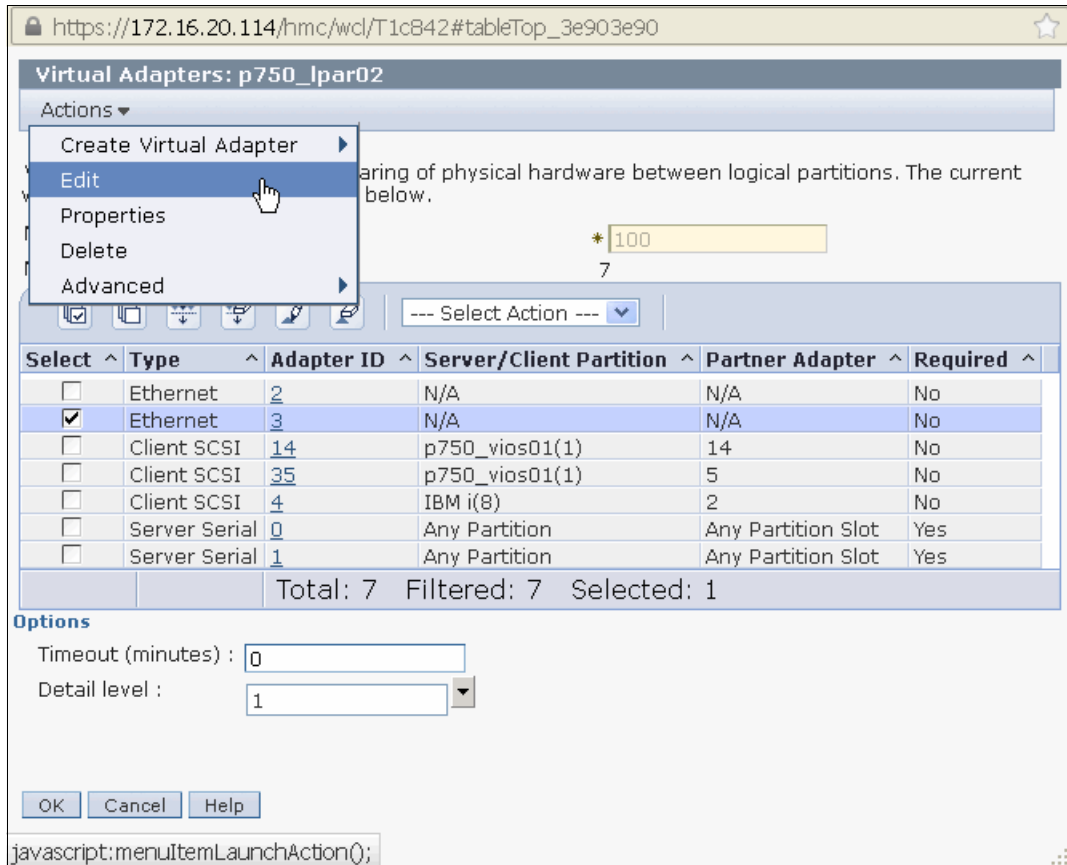

Figure 8-2 Modifying an existing adapter
2. Select the virtual Ethernet adapter to be modified and click **File** → **Edit** as shown in Figure 8-2.